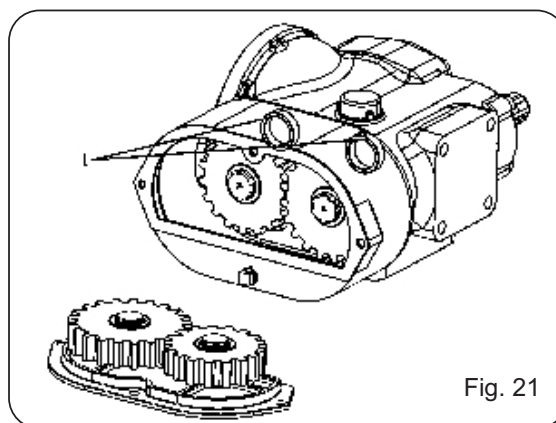

Fig. 21
Machine are equipped with a gearshift (Fig. 21), with one pair of gears.
- While changing gears pay attention that the spacers (Fig. 21) fitted behind the gears do not fall in the gearbox.
- The falling of the spares (Fig. 21) inside the gearbox can cause the braking of the gears.